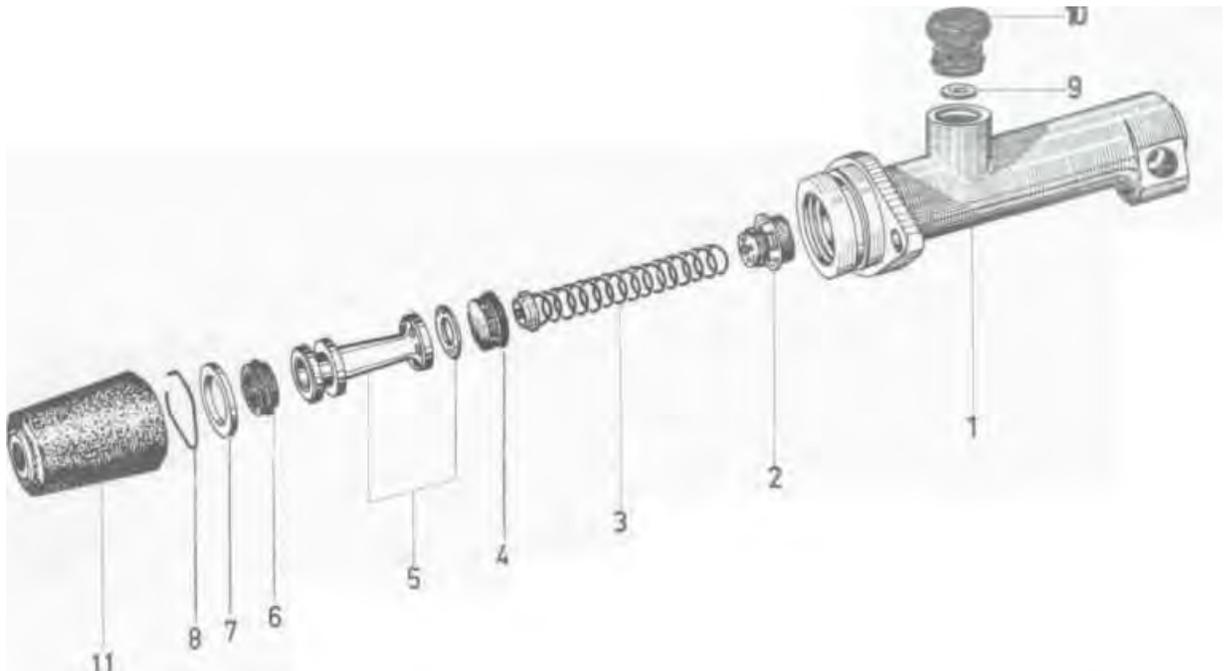

Fig. 15
4. See Fig. 15 for order of reassembly (do not fail to install the piston washer).